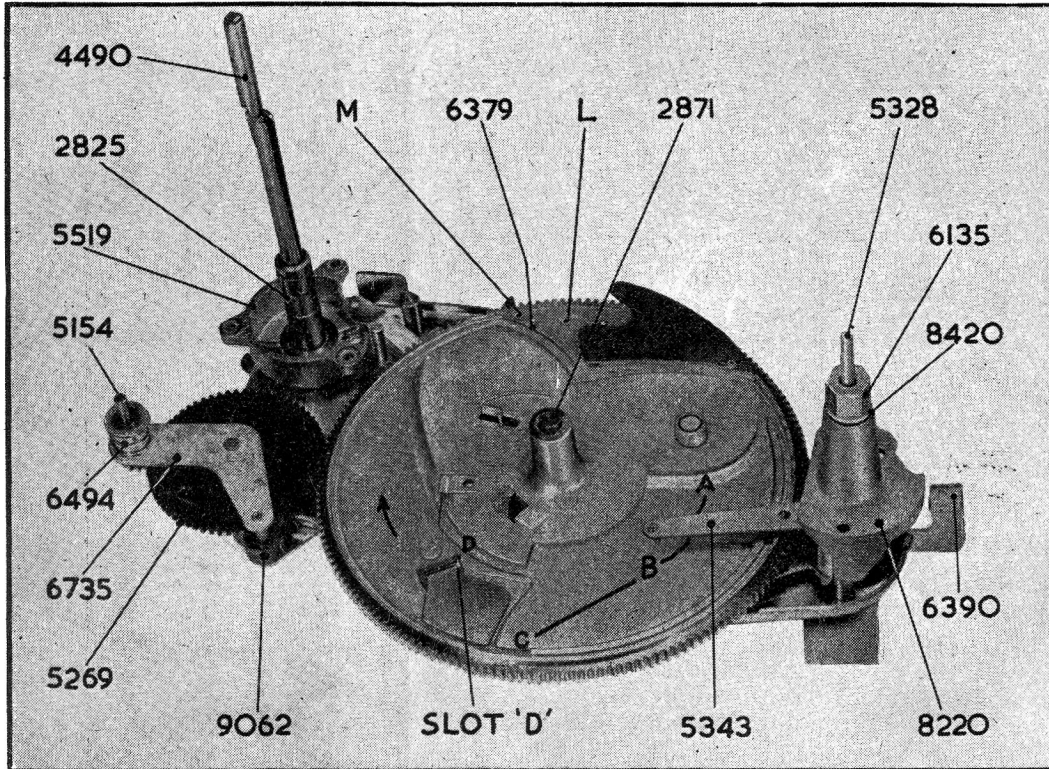
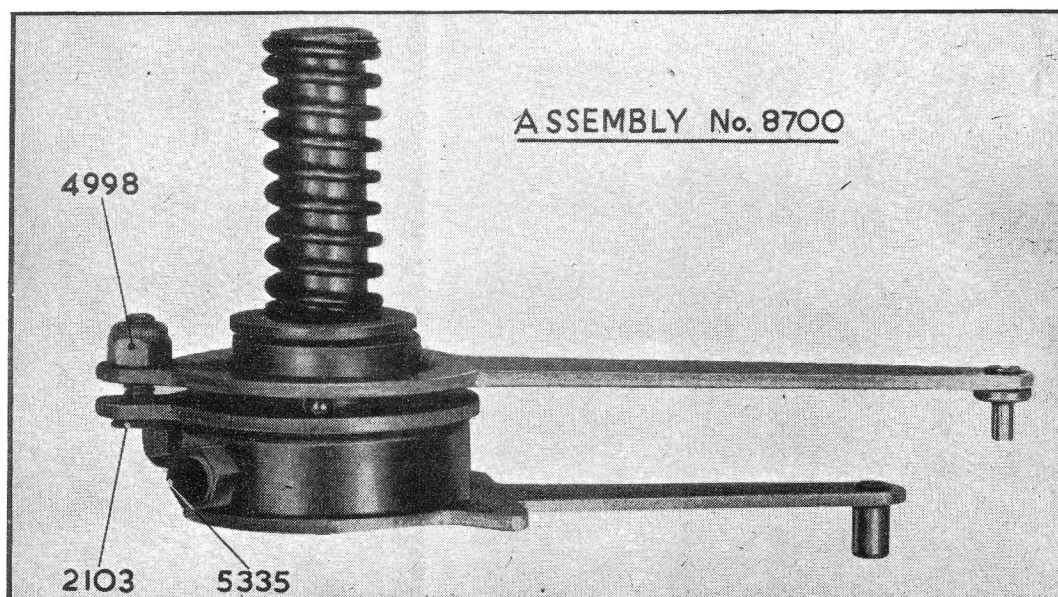

FIG. 2
FIG 7.
- Make sure that the cam following pin (on Arm 5343, Fig. 2) is not fouling the bottom of the cam when in the "playing recess". To adjust the pin away from the cam turn screw No. 2103 in a clockwise direction at the same time holding nut No. 4998 (Fig. 7). Do not give too much clearance otherwise the follower pin may jump out of the cam groove while the cam is rotating in cycle. The correct setting is for the pin to touch half-way up ramps A and C yet be clear of the cam in position "B" (see Fig. 2). Clearance at "B" .014"-.024".
Adjustment of the mechanism should not normally be necessary unless the machine has been dismantled to make replacements. To check adjustment operate "start" control and turn cam gear in direction of arrow (see Fig. 2) until large diameter post on the cam gear pushes the record dropping bar (No. 6477) to its extreme position. The record selector pawl (No. 4491) should now rise .056" above the step on the spindle and the pushing portion of the pawl should protrude slightly beyond the outer edge of the shelf.
The two following operations must be carried out with the sub plate removed as Fig. 2.
- To fit a new record spindle and turntable spigot assembly (No. 5519 and 4490, Fig. 2) four socket head screws must be removed, when the assembly may be lifted clear of the dropping pawl. Place the new assembly over the pawl, replace screws and tighten down. Re-adjust as described in Section 26.
- Release mechanism lock by moving lever 6355, Fig. 1, and turn cam in a clockwise direction until cam follower pin can drop into slot D, Fig. 2. With cam in the above position slacken two 6 B.A. screws Part 1979, Fig. 1, and move pawl adjustment plate Part 5098, Fig. 1, until it just contacts the bottom ends of the record release pawls. Re-tighten 6 B.A. screws to secure plate.
- Lift follower pin from slot D and rotate cam in direction of arrow until follower pin can drop into hole L, Fig. 2. With the cam in this position turn self locking nut 1276, Fig. 1, until the record dropping pawls rise .056" above the record spindle ledge.
- Lift follower pin again, rotate cam until pin can drop into hole M, Fig. 2. Adjust pawl stop 5594, Fig. 1, toward pawl ends until there is approximately .003" clearance between them (thickness of an average piece of newsprint). Tighten lock nut. Repeat releasing action.
This component (Fig. 7) is a rivetting assembly and should not be dis-assembled. It may be removed and a replacement fitted as follows:—